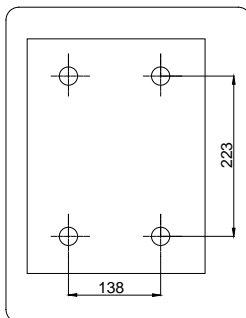

Fig.21 Control box mounting size
- Place the control box in the desired mounting position, open the cover of the control box, remove the control board, mark the mounting holes, and install the control box, fix the control board back to the box. See Fig.21